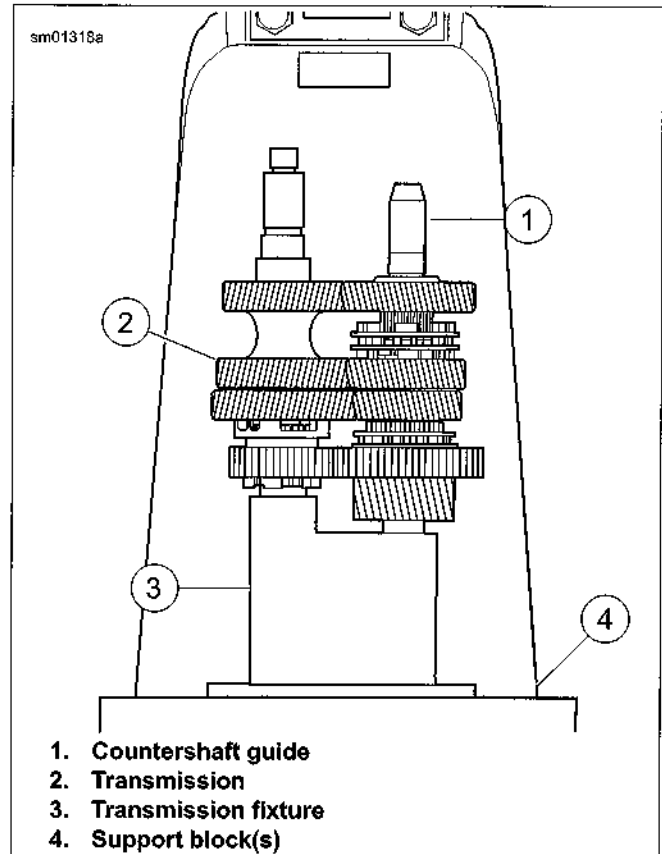

Figure 5-64. Transmission on Fixture
4. See Figure 5-64. Place transmission assembly (2) onto CASE HOLDING FIXTURE (Part No. HD-46285-2) (3) on press bed. Use support block(s) (4) if necessary.
5. Screw the GUIDE (Part No. B-43985-4) (1) into end of countershaft.